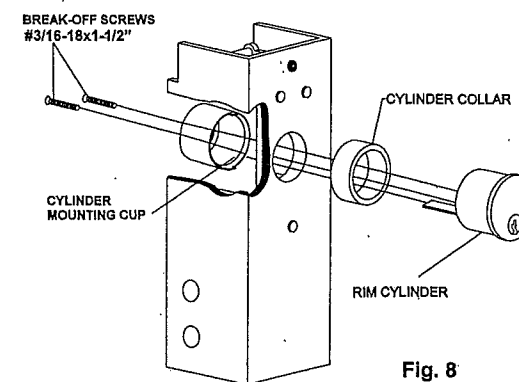

Fig. 8
3. Install the rim cylinder into the top fitting, and align the tailpiece and tailpiece hole on the cylinder cup then let the end of tailpiece go through the hole. Adjust and cut break-off screws and the tailpiece to eliminate excess length and secure the rim cylinder. (See Fig. 8)